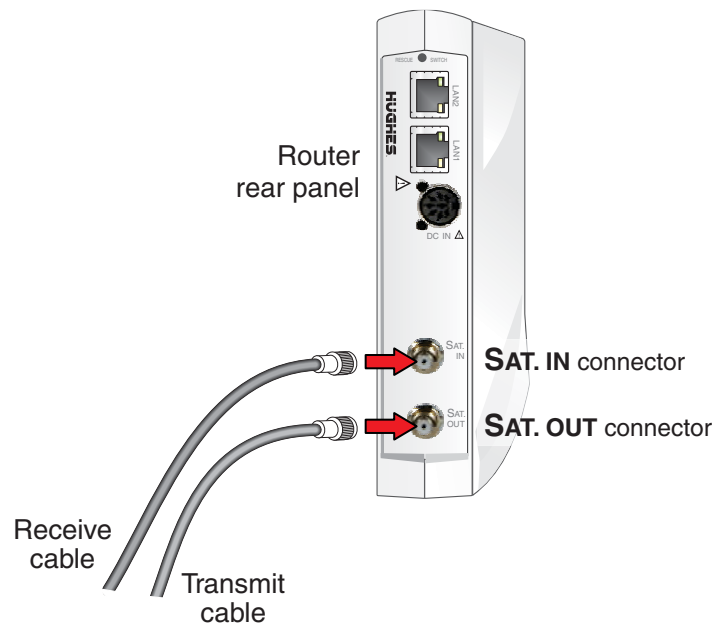

Figure 5: Connecting the transmit and receive cables to the router
1. Connect the transmit and receive cables to the connectors on the rear panel of the router as shown in Figure 5.